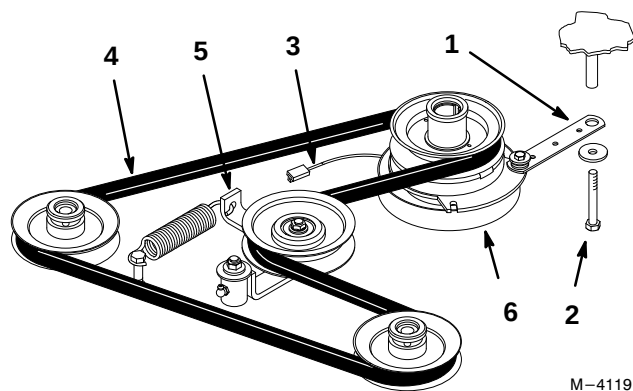

Figure 48
1. Remove bolt from clutch strap and unplug clutch electrical wire. (Fig. 48).
2. Pull spring loaded idler to side. Remove traction belt from the engine and hydro pump pulleys (Fig. 48).
3. Install new belt around engine and hydro pump pulleys (Fig. 48).
4. Pull spring loaded idler to side and align belt. Release pressure on spring loaded idler (Fig. 48).